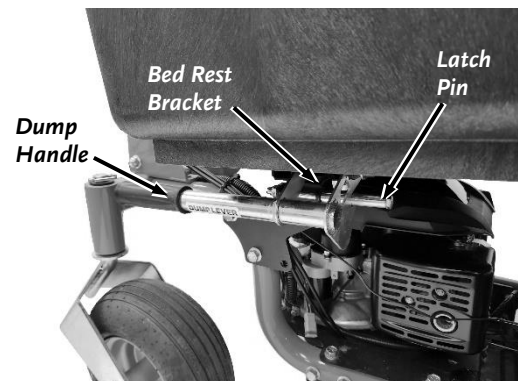

Figure 12
4. Tip the Bed back onto the Bed Rest Brackets and ensure the back of the Bed Assembly is on the Bed Rest Brackets and the Dump Lever is fully latched onto the Latch Pin (**Figure 12**).
4. Make sure the Dump Latch is secured (PRO 700 Models) (**Figure 12** on page 10).